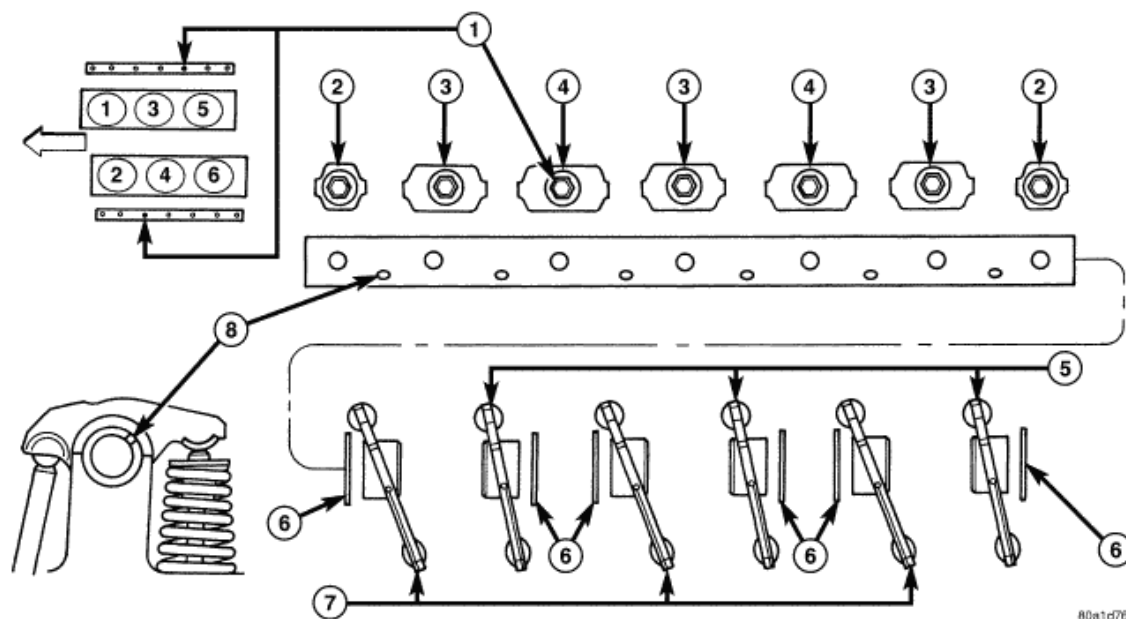

Fig. 112: Rocker Arms & Shaft
2. Remove rocker arms. See **Fig. 112**. Identify the component locations for reassembly in original locations.